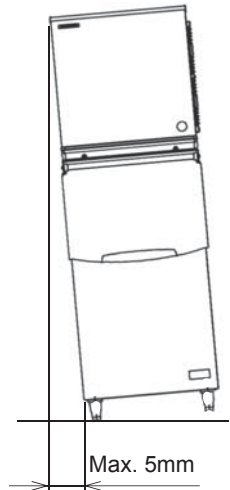

Fig. 2a
- 4) Level the dispenser unit/ice storage bin in both the left-to-right and front-to-rear directions. If using an ice storage bin, adjust the ice storage bin legs to level. See Fig. 2a.